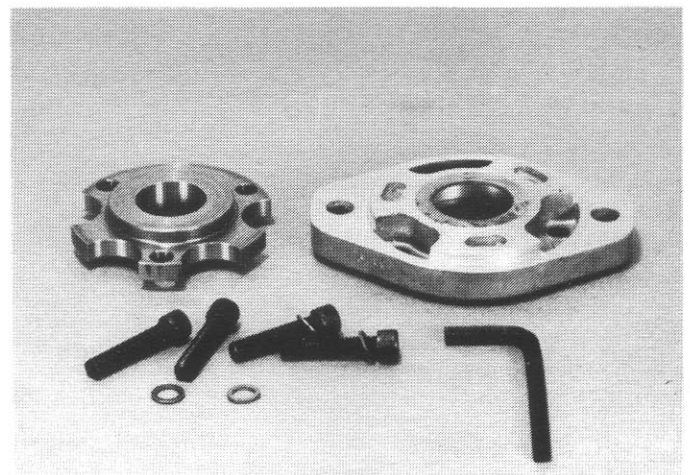

Fig. 4
4. If your pump has a mounting adapter (15), remove allen-head capscrews (17), washers (16) and flange adapter (19). (Fig. 4)